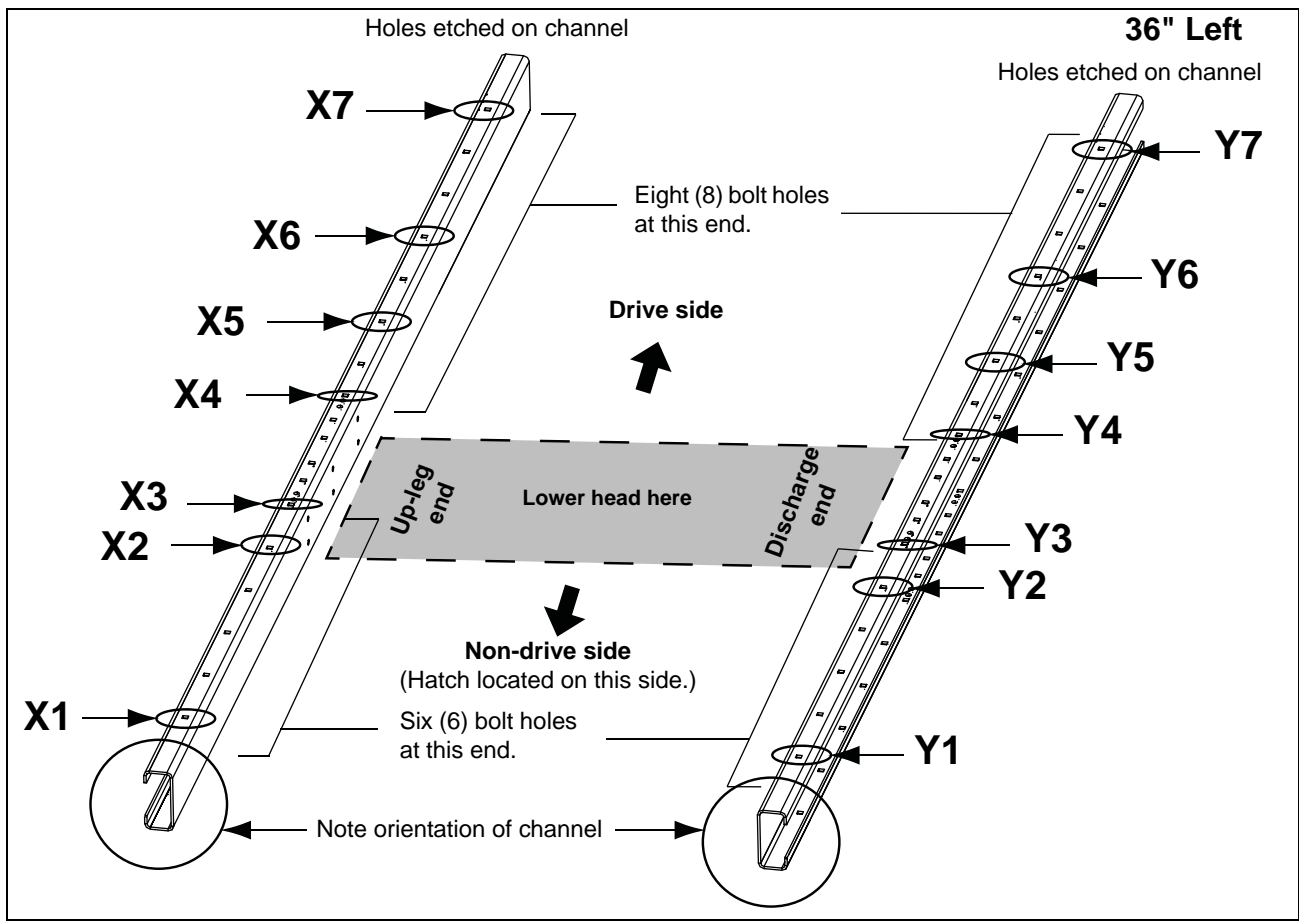
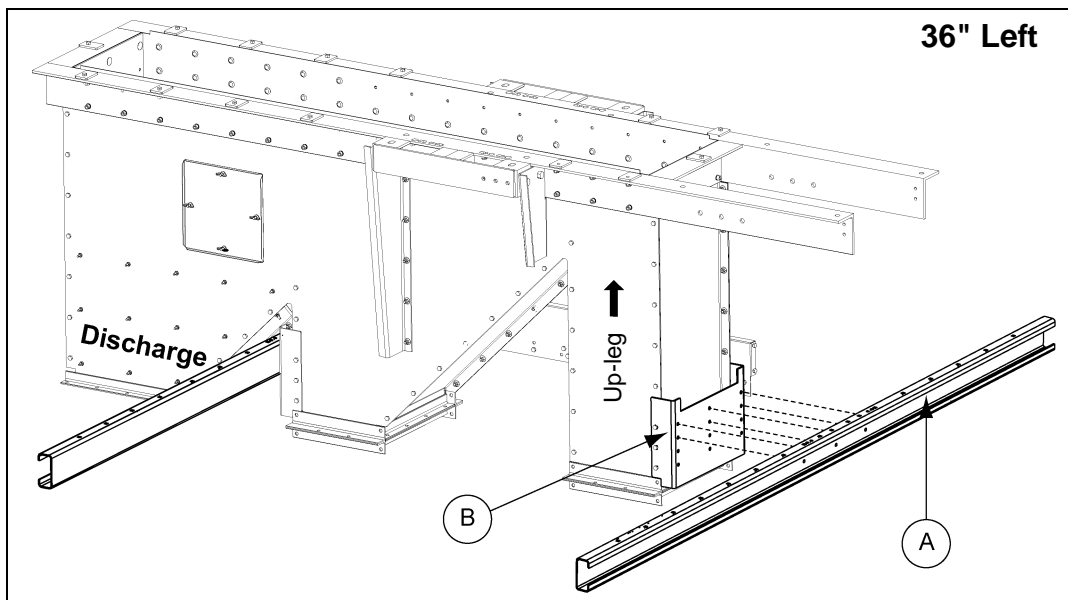

Figure 9D 36" Left Side Drive Channel Position
Figure 9E
(See Figure 9D on Page 71.)
3. Attach cross deck support channels (HP36CDSCX) (A) to the top most set of holes of the lower head brackets (HSP36130) (B) using 3/8" x 1" bolts and nuts. *(See Figure 9E on Page 71.)*
- *NOTE:** *The channels MUST be oriented as shown in Figure 9D and Figure 9E on Page 71 in order for the decking and subsequent assembly to be done correctly.*